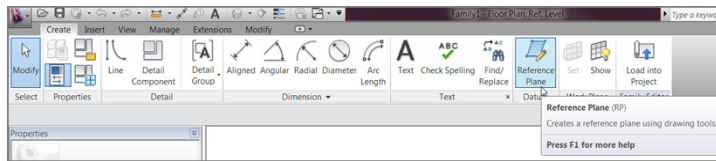

FIGURE 17.1: The Reference Plane button on the Create tab
1. On the Datum panel of the Create tab, click the Reference Plane button, as shown in Figure 17.1.